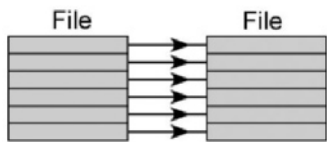

Figure 10-5 Illustration for question 11.
11. The illustration shown in Figure 10-5 illustrates a